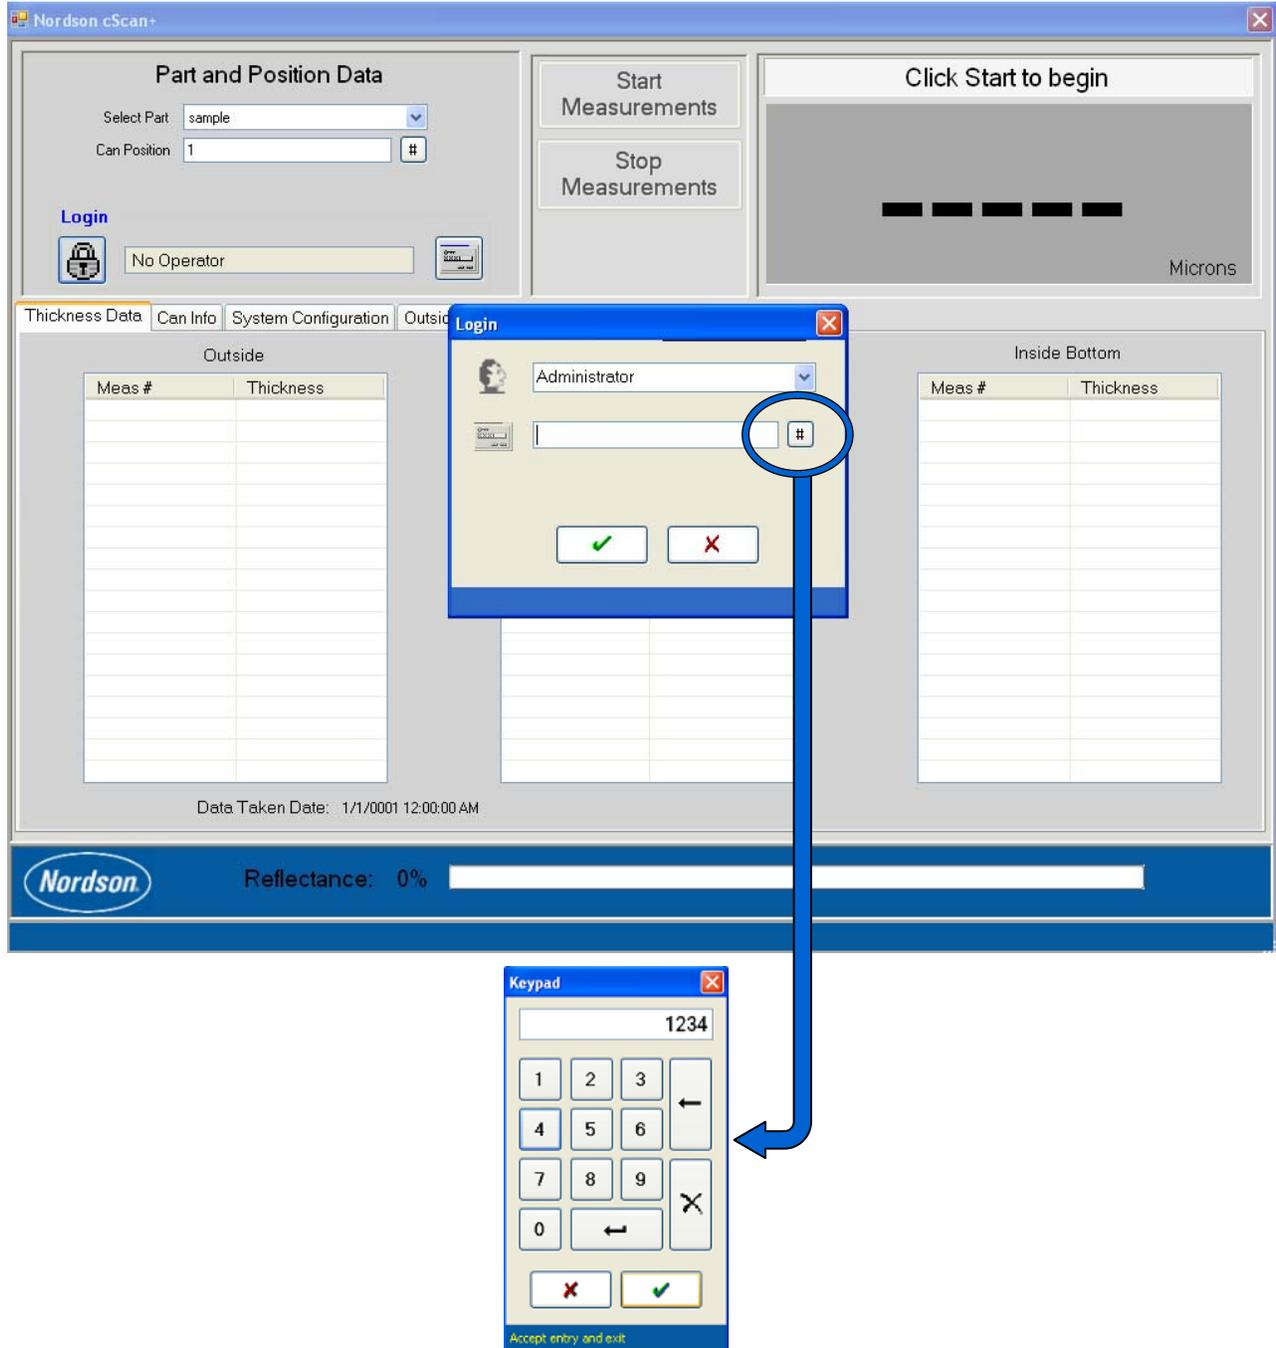

Figure 13 Login Screen and Keypad
1. On the computer, press the login button. Enter the username and password in the corresponding fields, and press the green checkmark to continue. See Figure 13.